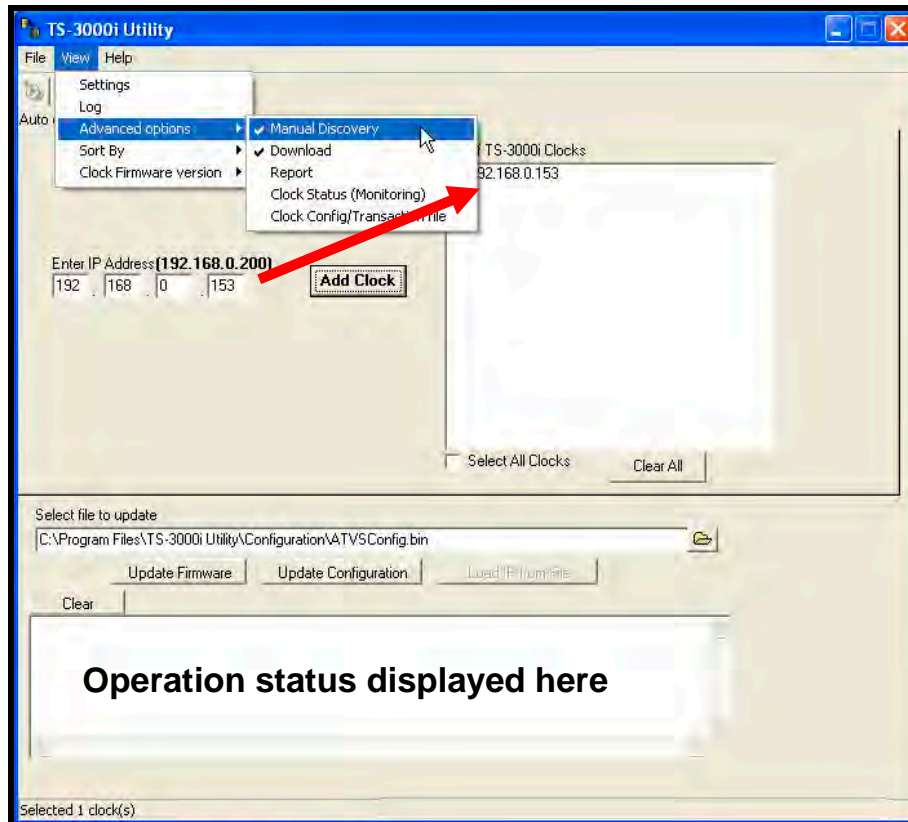

Figure 5-13: Manual Discovery Download
Step 1. With the **Advanced options** → **Download** open, click on **View** → **Advanced options** → **Manual discovery** to enter the IP Address for the desired clock, and press the **Add Clock** button to add the clock to the list of TS-3000i clocks (see *Figure 5-13*). Use this same procedure to manually add other TS-3000i clocks to the list.